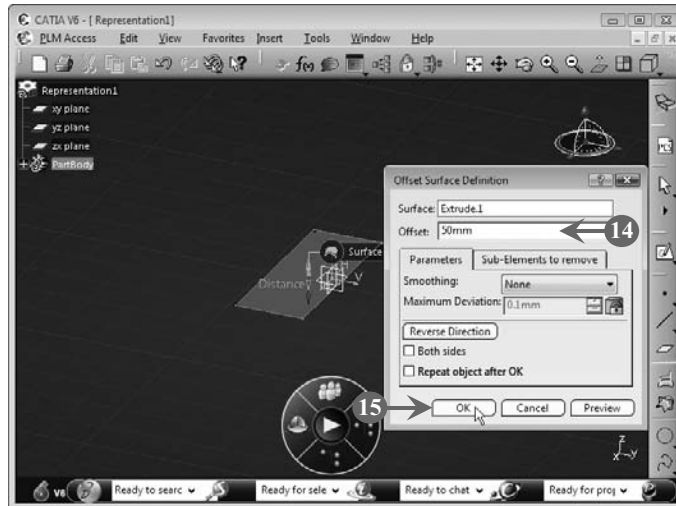

FIGURE 5.62
The selected reference surface is added to the **Surface** box in the **Offset Surface Definition** dialog box (**Figure 5.62**).
14. Enter a value representing the offset from the reference plane in the **Offset** box (Figure 5.62). In our case, we have entered **50 mm**.
15. Click the **OK** button to close the **Offset Surface Definition** dialog box, as shown in Figure 5.62: